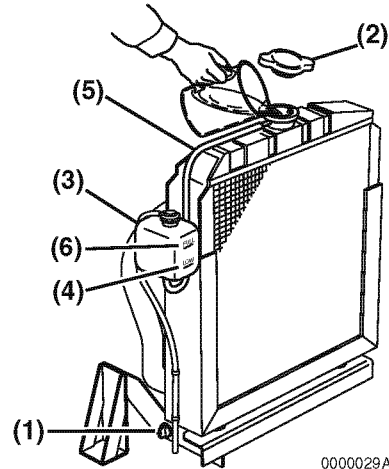
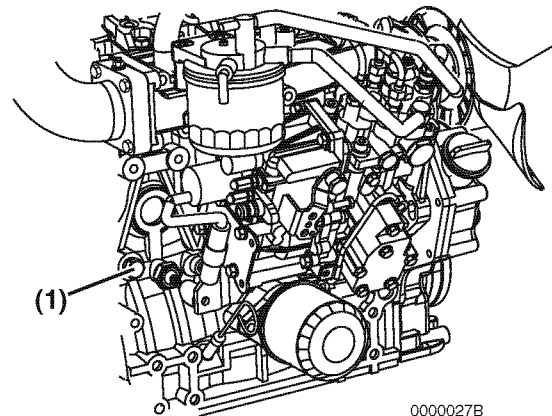
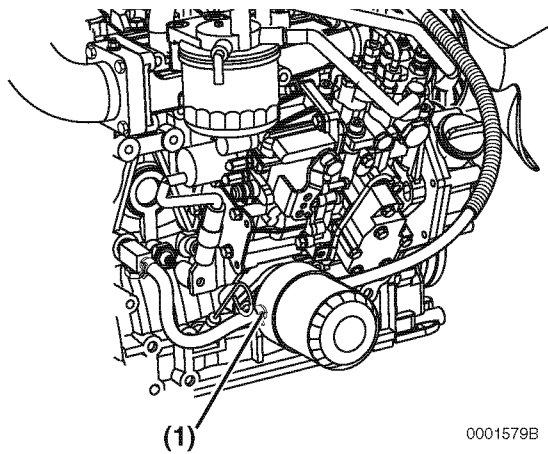

Figure 4-7
Figure 4-8
Figure 4-9
Fill the radiator and reserve tank as follows. This procedure is for filling the radiator for the first time or refilling it after it is flushed. Note that a typical radiator is illustrated (**Figure 4-7**).
1. Check to be sure the radiator drain plug is installed and tightened or the drain cock (**Figure 4-7, (1)**) is closed. Also make sure the coolant drain plug (**Figure 4-8, (1)**) in the cylinder block is closed or the oil coolant hoses (**Figure 4-9, (1)**) are installed at the oil cooler.
2. Remove the radiator cap (**Figure 4-7, (2)**) by turning it counter-clockwise about 1/3 of a turn.
4. Reinstall the radiator cap (**Figure 4-7, (2)**). Align the tabs on the back side of the radiator cap with the notches on the engine coolant filler port. Press down and turn the cap clockwise about 1/3 of a turn.
5. Remove the cap on the reserve tank (**Figure 4-7, (3)**), and fill it to the LOW (COLD) mark (**Figure 4-7, (4)**) with engine coolant. Reinstall the cap.
6. Check the hose (**Figure 4-7, (5)**) that connects the reserve tank (**Figure 4-7, (3)**) to the radiator. Be sure it is securely connected and there are no cracks or damage. If the hose is damaged, the engine coolant will leak out instead of going into the reserve tank.
7. Run the engine until it is at operating temperature. Check the level of engine coolant in the reserve tank. When the engine is running and the engine coolant is at normal temperature, the coolant level in the tank should be at the FULL (HOT) mark (**Figure 4-7, (6)**). If the engine coolant is not at the FULL (HOT) mark (**Figure 4-7, (6)**), add additional engine coolant to the reserve tank to bring the level to the FULL (HOT) mark.